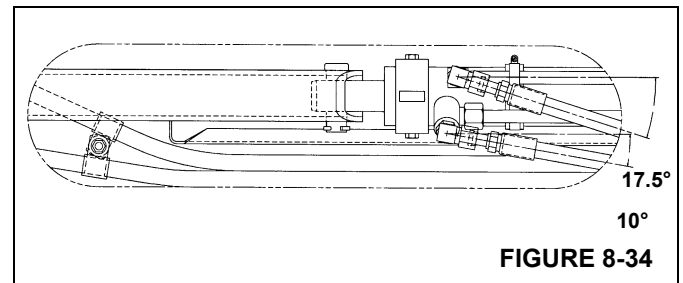

FIGURE 8-34
**NOTE:** Keep hydraulic fittings and hoses close to angles shown (Figure 8-34) and as low as possible to prevent rubbing with the beam top plate and side